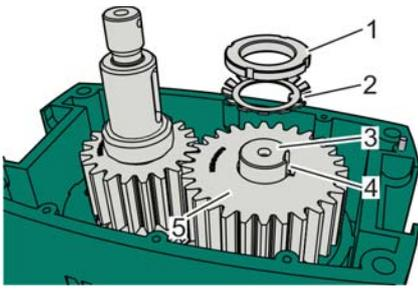

Fig. 140: Tightening the groove nut on the toothed wheel, example
- 18. ▶ Slide the locking plate (Fig. 140/2), aligned with the tab on the keyway (Fig. 140/4), in the correct position onto the cutter block shaft (Fig. 140/3).
- 19. ▶ Screw the groove nut (Fig. 140/1), with the chamfered side facing down, by hand onto the motor block shaft (Fig. 140/3).
- 20. ▶ Tighten the groove nut (Fig. 140/1) with the prescribed torque (☞ Appendix "Screw tightening torques" on page 131) using a hook spanner only until a tongue of the locking plate (Fig. 140/2) can be bent into a groove of the groove nut (Fig. 140/1).